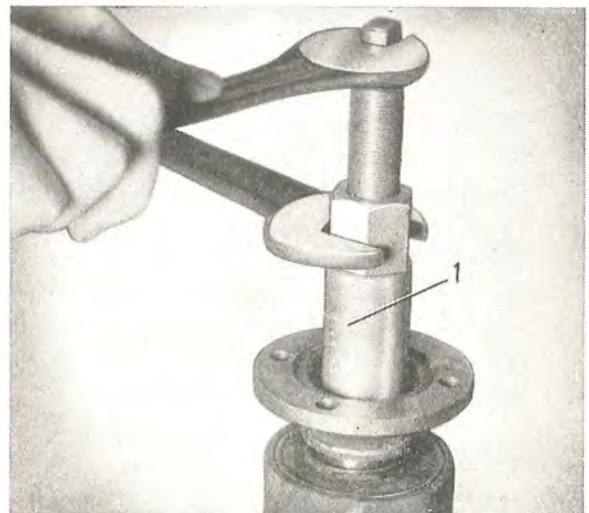

Fig. 4-74. Fitting the flange
4. Press on the flange with the help of press tool SVO 1845, see Fig. 4-74. Fit the washer and nut.